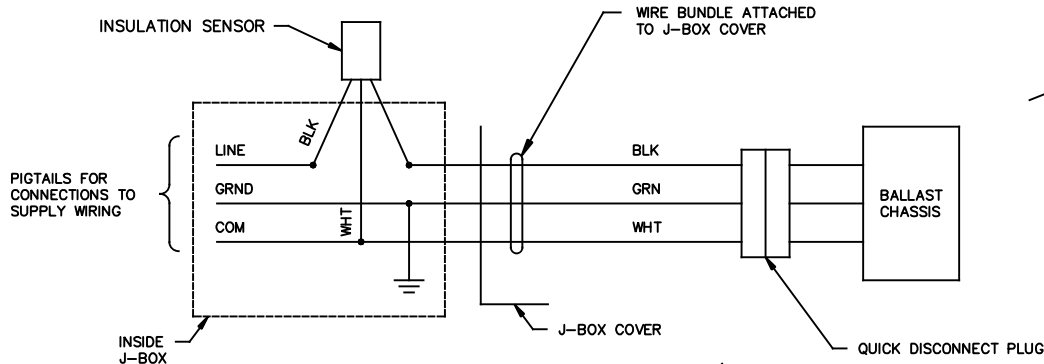

FIG. 3
NOTE* WIRE PER FIG. 3.
3. Connect the housing ground pigtail (green) and the j-box cover/disconnect assembly ground pigtail to the supply circuit ground lead per fig. 3.
4. Connect the insulation sensor phase lead (black) and j-box cover neutral lead (white) to the supply circuit phase and neutral leads per fig. 3. Connect the ballast tray and housing ass'y quick disconnect plug and socket per fig. 3..